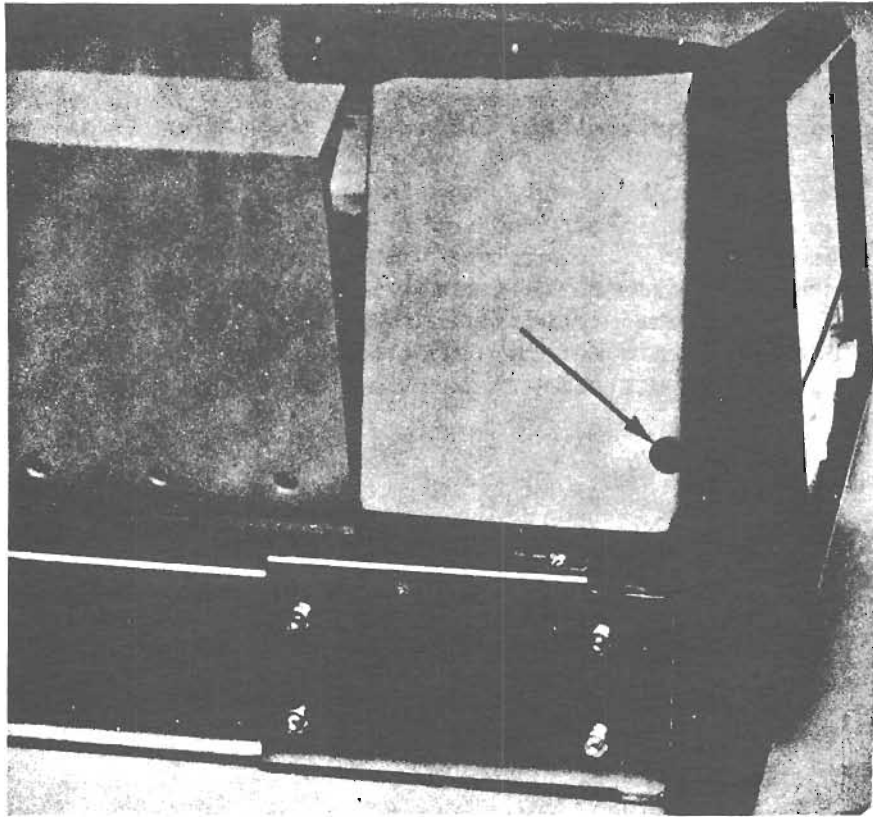

FIGURE 19 FRONT PANEL RETAINING SCREW ACCESS
5. Front-panel components are accessible for removal or replacement by loosening the two hexagon socket screws which hold the front panel in position. Access to these screws is through two holes, one on each side of the bowl, as shown in Figure 19. To permit the front panel to swing freely, two lower screws, one on each side may require loosening. These screws are located between the front panel and the lower section of the slide inner member. The